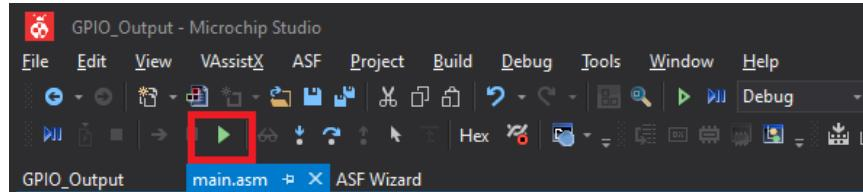

Figure 12: Starting Simulation.
6. Start debugging the main program. To start debugging, select the *Start Debugging* icon shown in *Figure 12*, navigate to **Debug** → **Continue**, or simply press **F5** on your keyboard. The break pointed line of code will be highlighted, following a yellow arrow in the gray pane where the breakpoint resides. This indicates the next instruction to be executed.